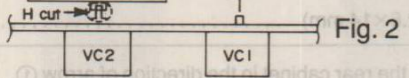

Fig. 2
3. Mesh the VC2 dial drum (RDG 5906Z) with the VC1 dial drum (RDG 5905Z) by fitting the H cut parts together first. (Fig. 2)